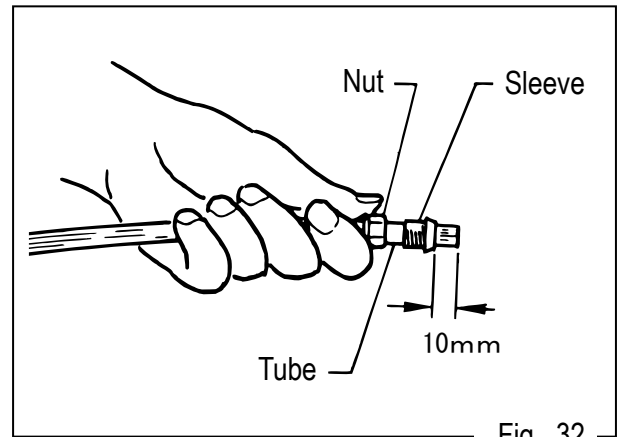

Fig. 32
- Installing the Nylon tube (Fig.32)